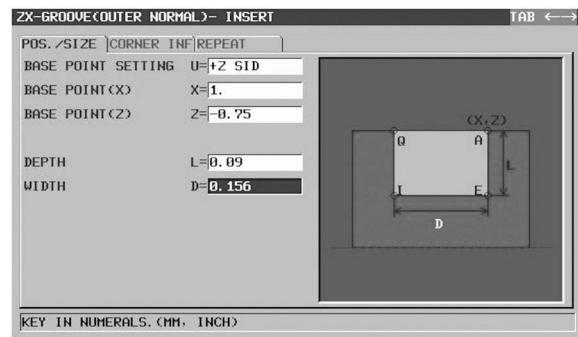

Figure 7-32 GROOVING POS./SIZE
37. From the ZX-GROOVE (OUTER NORMAL) dialog, set the POS/SIZE tab values per Figure 7-32.